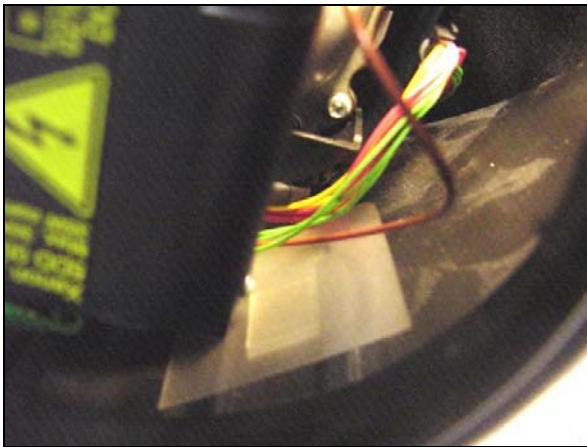

Figure 3 – Repair Film in Place
3. Continue inserting the repair film all the way in (Figure 3).